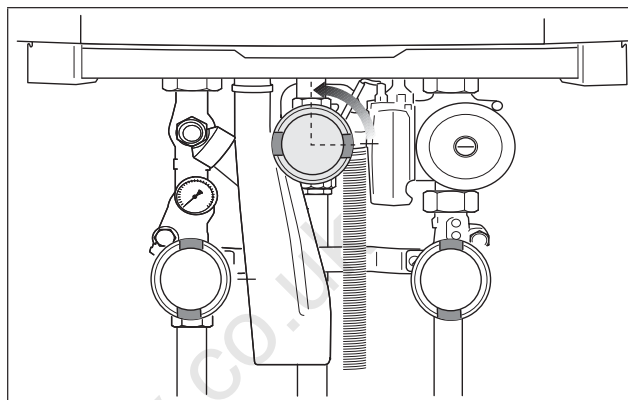

fig. 133 Opening the gas valve
- Slowly open the gas valve by pushing on the gas valve and turning it $\frac{1}{4}$ rotation in an anticlockwise direction (fig. 133).